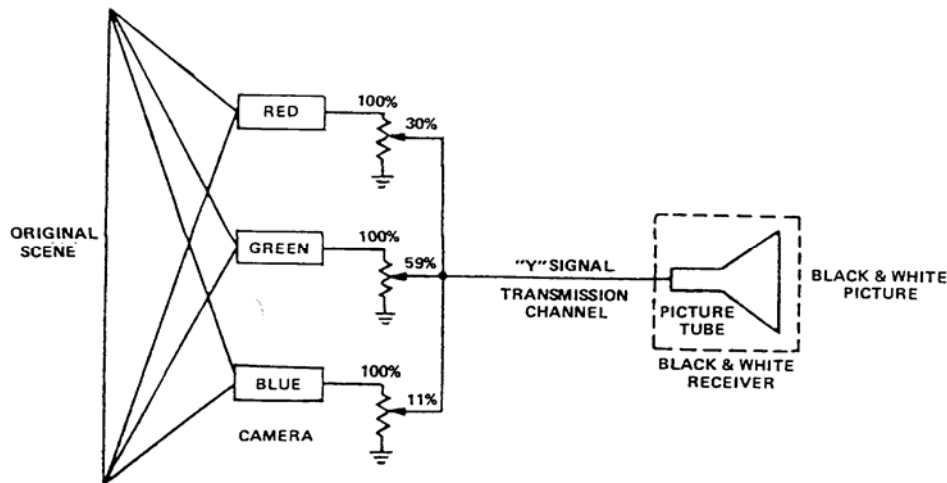

Figure S-15. Compatibility
(1) A color telecast must provide a full 6 MHz black and white signal with the same amplitude modulation, sync, and blanking characteristics as does any ordinary standard monochrome telecast.
(2) The chrominance information, which includes the hue and saturation variable of color, must be transmitted within the standard 6 MHz television channel.
(3) The transmitted chrominance information must not in any way cause objectionable interference with the black and white signal (the brightness variable of color).
c. As previously stated, color television programs must be transmitted so they can be faithfully reproduced by present black and white receivers without any modifications. This feature is known as compatibility (Figure S-15).
(1) The burst is generated at the color frequency standard generator by a gating circuit which is turned on by burst keying pulses derived from a device known as the burst flag generator. This device is also locked in with the station sync generator. The burst consists of approximately 9 to 11 cycles of the 3.58 MHz signal and is placed on the back porch of the horizontal blanking pedestal next to the horizontal sync pulse (refer back to Figure S-15).